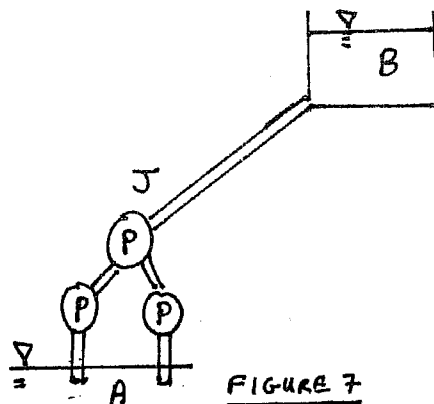

FIGURE 7
7) Three identical centrifugal pumps are to be used in combination to move water from Reservoir A to Reservoir B as shown in Figure 7. Two of the pumps are in parallel, while the third is in series with the first two, as shown in the figure.